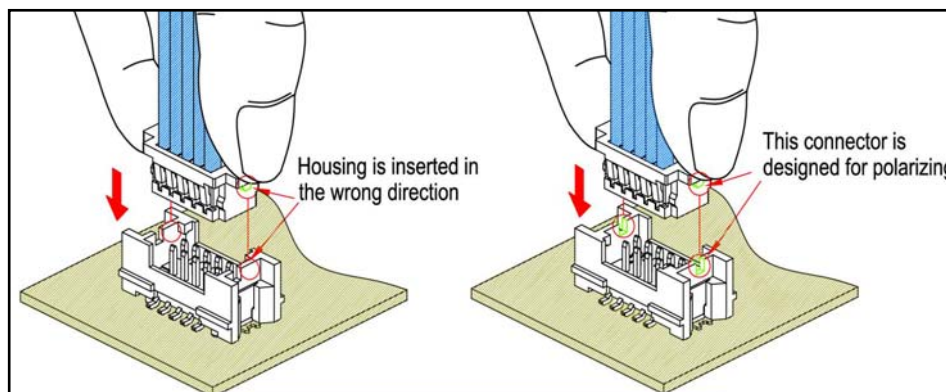

figure 3.1
3.1 This connector is designed for polarizing. Please be careful on the direction of the housing insertion. (see figure 3.1)